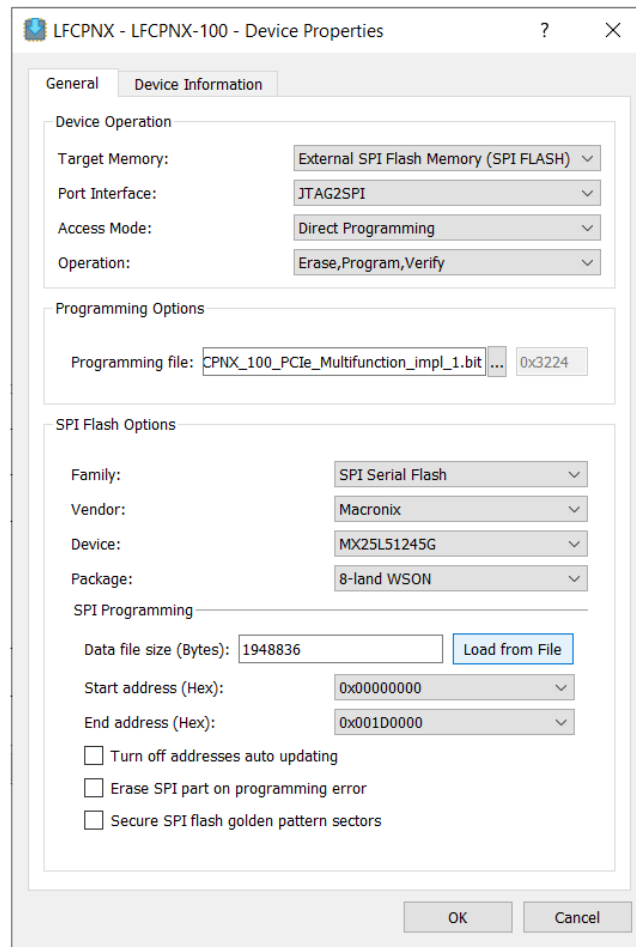

Figure 3.11. Device Properties Window for CertusPro-NX SPI Flash Programming (with Macronix Flash)
6. For CertusPro-NX devices, select the settings as shown in Figure 3.11.